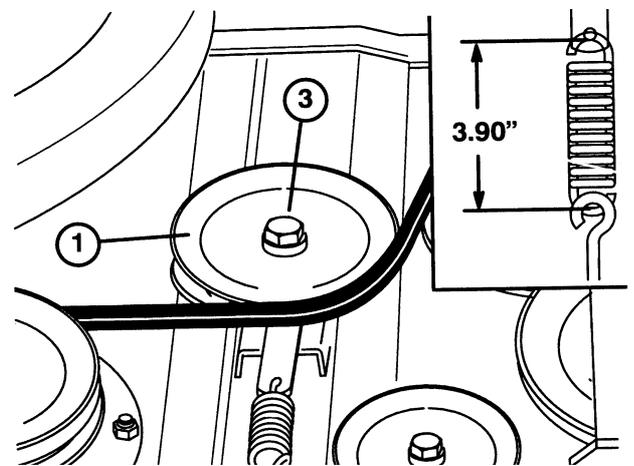

Figure 14
REPLACING DRIVE BELTS (Fig. 14–15)
6. Tighten the spring tensioning nut until the spring length is 9.9 cm inside the spring loops (Fig. 14).